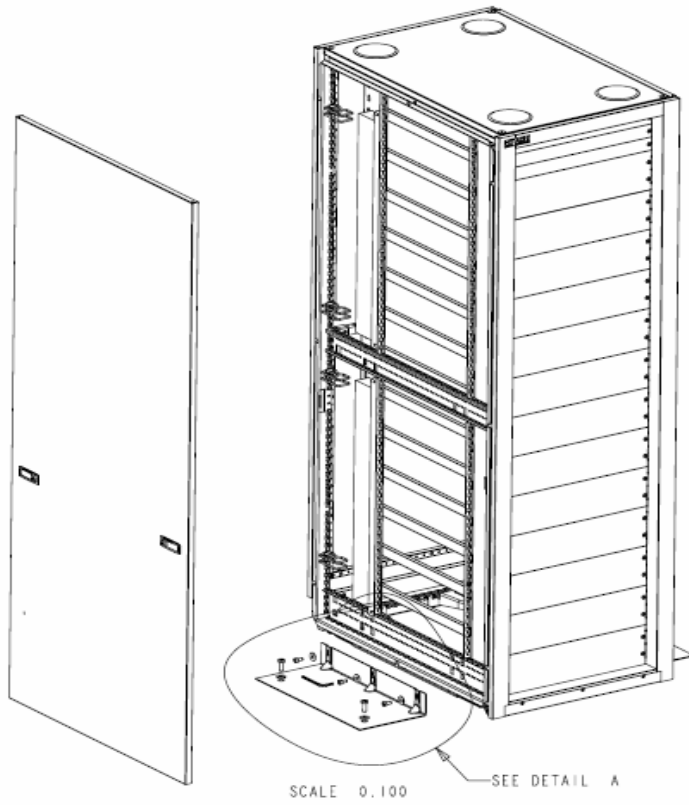

Figure 3.3 Installing the Side Stabilizer Plates (Detail A)
Figure 3.3 shows how to install the side stabilizer plates.
2. Place the stabilizer plate as shown in Figure 3.3, so it mates against the bracket at the bottom sides of frame and aligns with the holes.